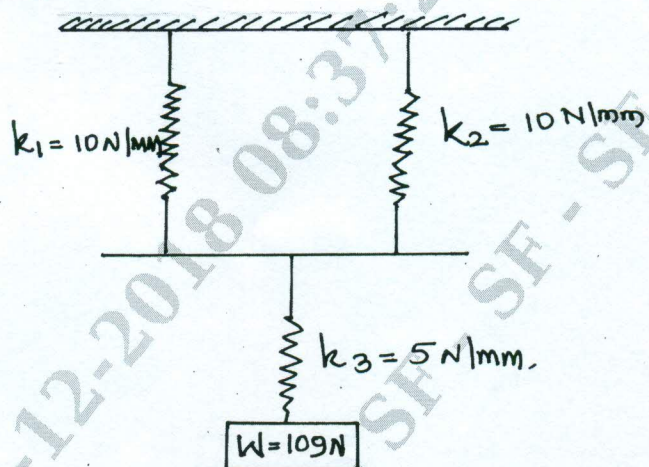

Fig.Q8(b)
- b. Determine the equivalent spring stiffness and natural frequency of vibration for the Fig.Q8(b) shown below. (10 Marks)